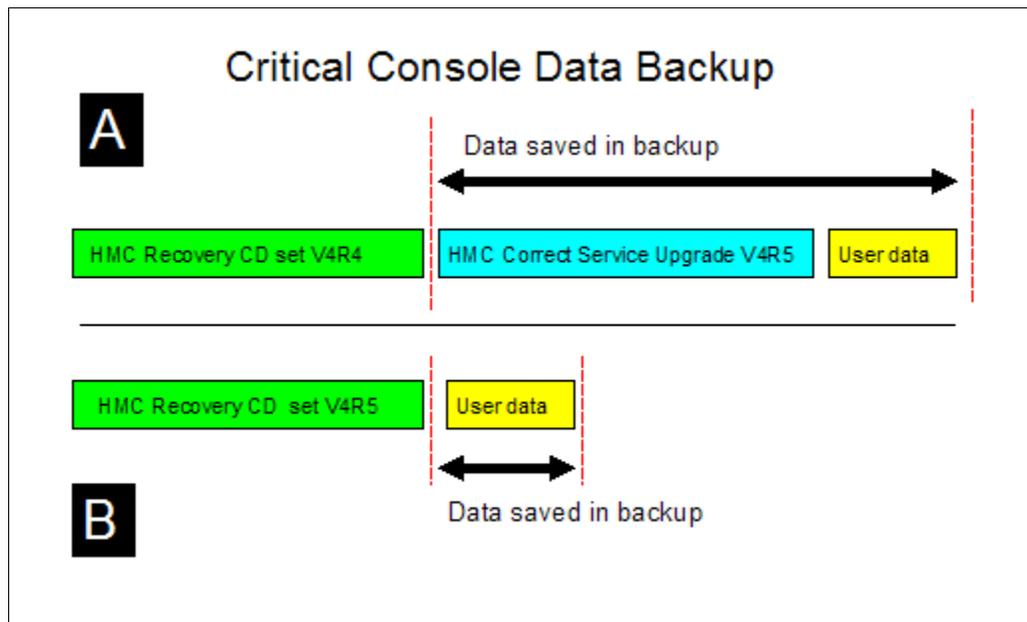

Figure 14-5 Critical Console Data Backup
For example, Figure 14-5 shows two HMCs (A) and (B) that follow the two possible HMC upgrade paths.